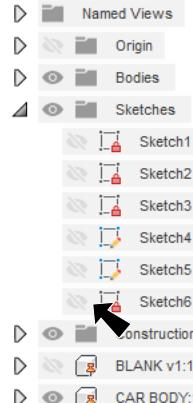

Fig. 35
Step 4. In the Browser, Hide Sketch6, Fig. 35.